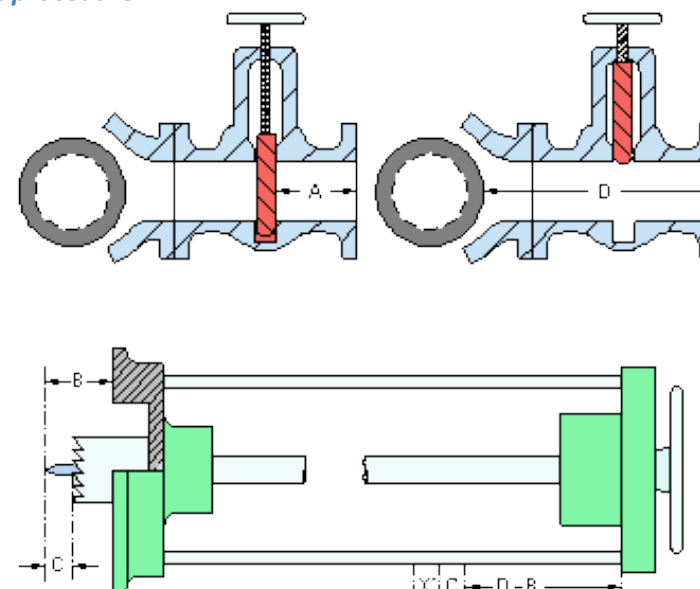
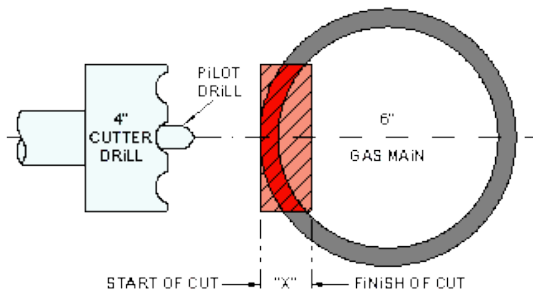

Figure 28- Drilling Machine Set Up
Figure 29- Measurements for Metallic Branch Drilling
2. Calculate measurements as per Figure 28 and Figure 29 of A, B, C, D & X and record in Table 16.